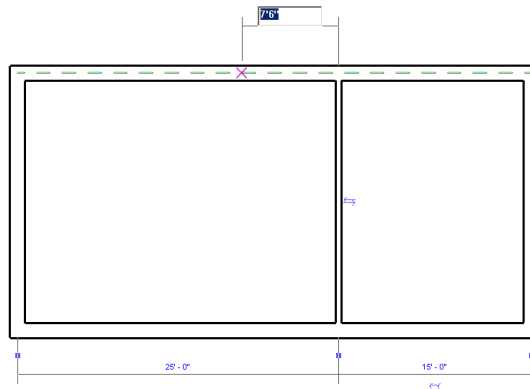

Figure 3-58 Specifying the starting point of the second interior wall
1. To sketch the second interior wall, move the cursor to the upper endpoint of the interior wall you just created and then move the cursor horizontally toward the left. When the temporary dimension and the intersection object snap appears, enter **7'6"**(2286 mm), as shown in Figure 3-58. Now, press ENTER; the start point of the second interior wall segment is specified on the upper horizontal exterior wall.